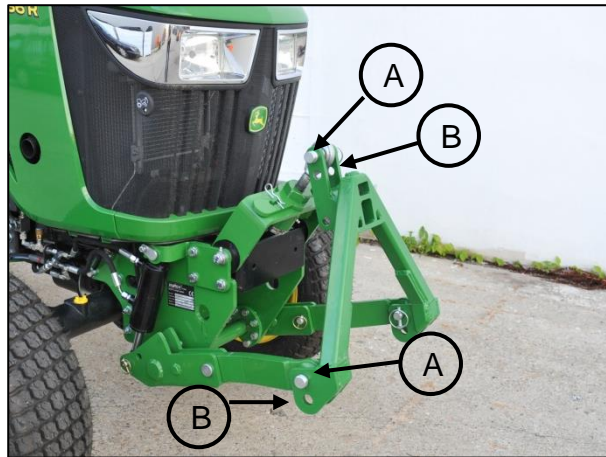

Fig. 19: Lower link and coupling triangle cat. 0
2. Mount the coupling support on the lower link and the top link. For attachment select variant A or B. Variant A is shown in Fig 19 **Fehler! Verweisquelle konnte nicht gefunden werden..**